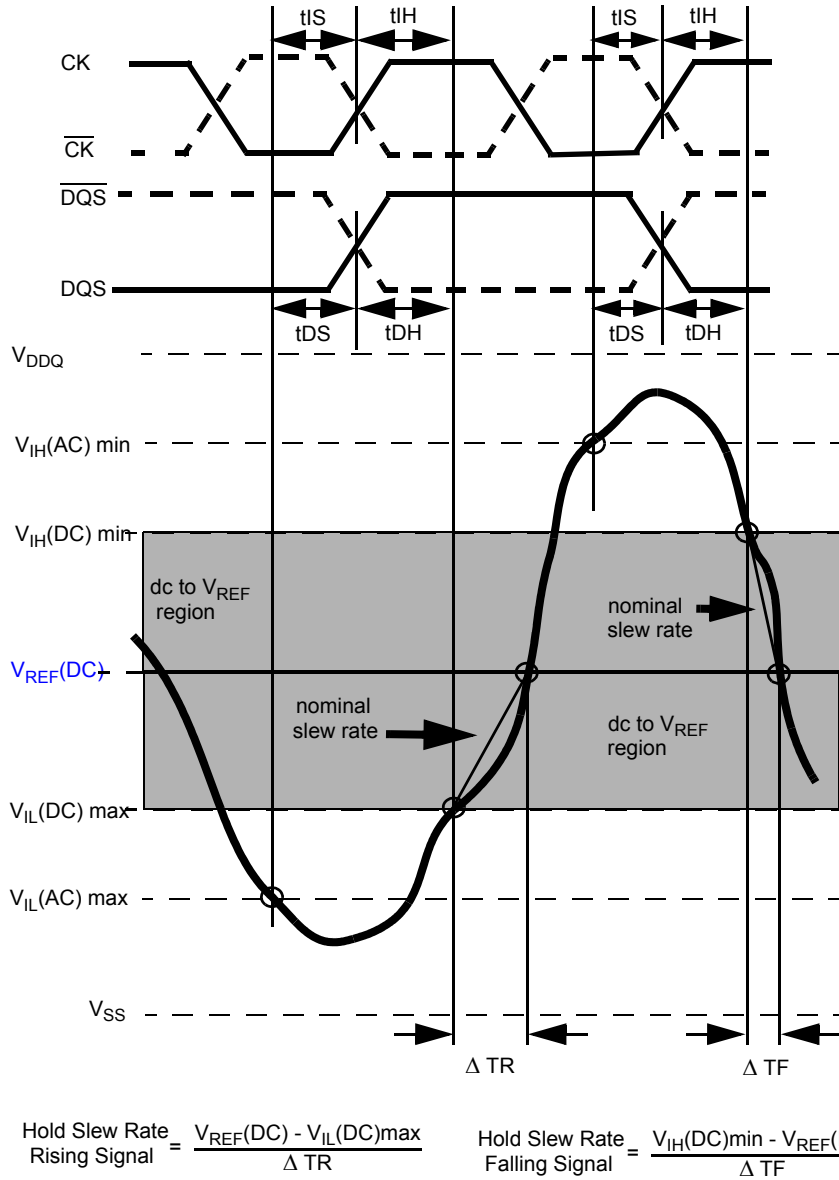
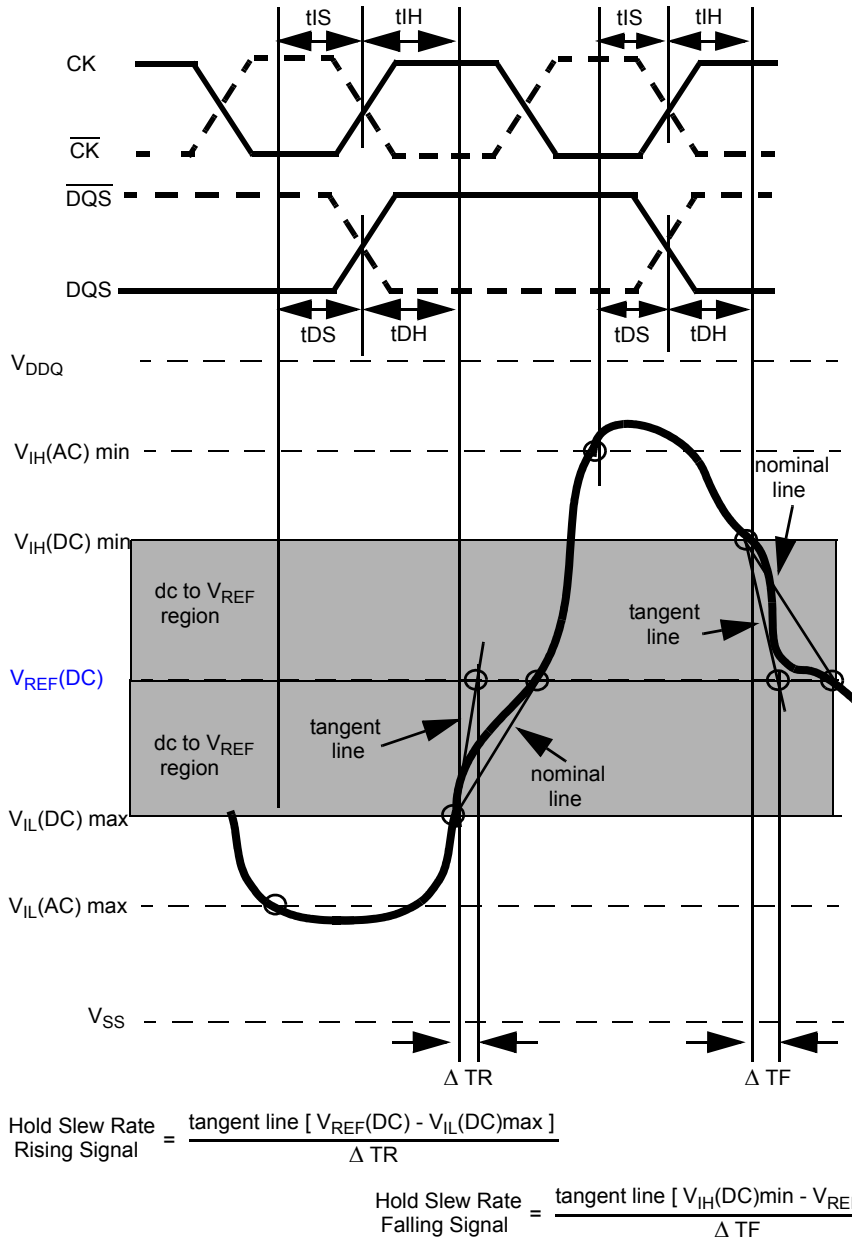

Figure 22. Illustration of nominal slew rate for hold time  $t_{DH}$  (for DQ with respect to strobe) and  $t_{IH}$  (for ADD/CMD with respect to clock).
Figure 24. Illustration of tangent line for hold time  $t_{DH}$  (for DQ with respect to strobe) and  $t_H$  (for ADD/CMD with respect to clock)
Hold (tIH) nominal slew rate for a rising signal is defined as the slew rate between the last crossing of VIL(DC)max and the first crossing of VREF(DC). Hold (tIH) nominal slew rate for a falling signal is defined as the slew rate between the last crossing of VIH(DC)min and the first crossing of VREF(DC). If the actual signal is always later than the nominal slew rate line between shaded 'dc to VREF(DC) region', use nominal slew rate for derating value (see Figure 22). If the actual signal is earlier than the nominal slew rate line anywhere between shaded 'dc to VREF(DC) region', the slew rate of a tangent line to the actual signal from the dc level to VREF(DC) level is used for derating value (see Figure 24).